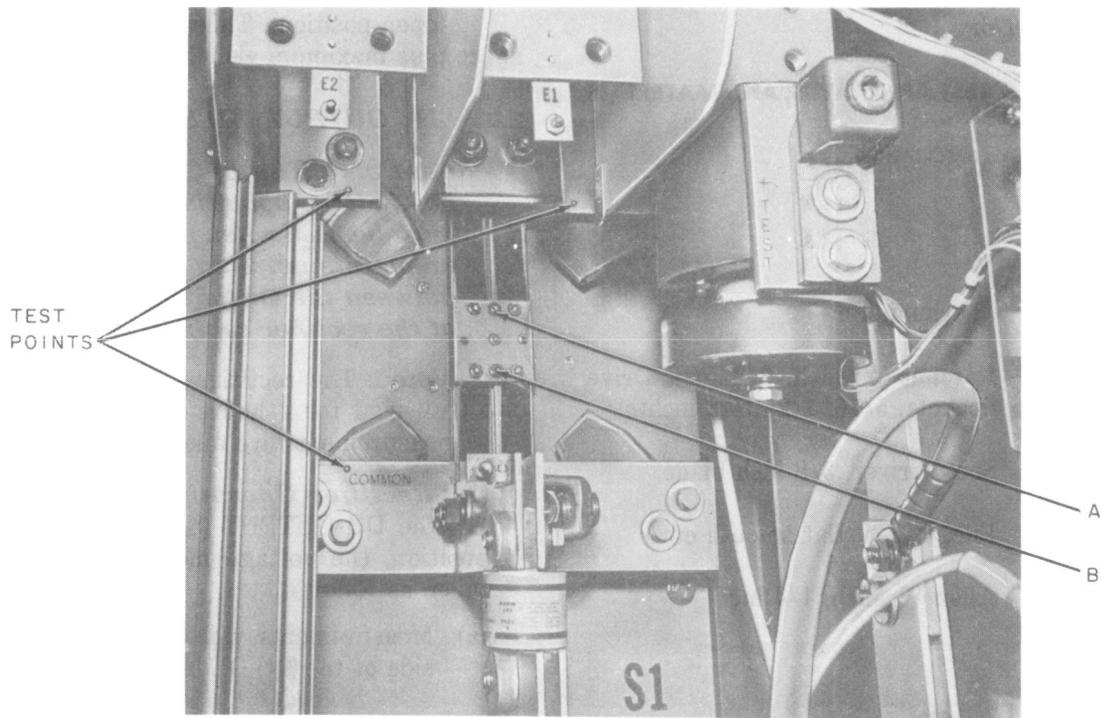

Fig. 2—DC OUTPUT (S1) Switch—Rear View
- (1) **Rectifier Operating in BAT Mode:** If the DC OUTPUT (S1) switch is in the BAT position, the voltage measurements should be taken as follows.
- (b) The negative lead of the voltmeter should be placed inside the letter O stamped on the bus link directly below the lower left contact. This bus is stamped COMMON. Refer to Fig. 2.
(b) The negative lead of the voltmeter should be placed inside the letter O stamped on the bus link directly below the lower left contact. This bus is stamped COMMON. Refer to Fig. 2.
- (1) In order to do a more complete cleaning job of both the fixed and rotary poles, the DC OUTPUT (S1) switch may be disassembled as follows.
- (a) Remove the rectifier from service in accordance with 3.05, (1) through (6).
- (b) Rotate the center pole until it is in a horizontal position. Remove the two screws A and B shown in Fig. 2. The entire center pole assembly may now be withdrawn. This allows easier access to the fixed contacts. The inner surfaces of the center pole can now be cleaned in accordance with 3.05, (7) through (9).